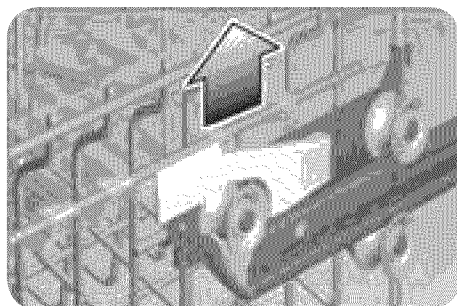

FIGURE 6
- Grasp the top of the rack above the *Automatic Height-Adjustable Top Rack* handles and pull it upward as shown in **Figure 6** until the handles lock the rack into position (you do not need to press the handles in order to raise the rack).